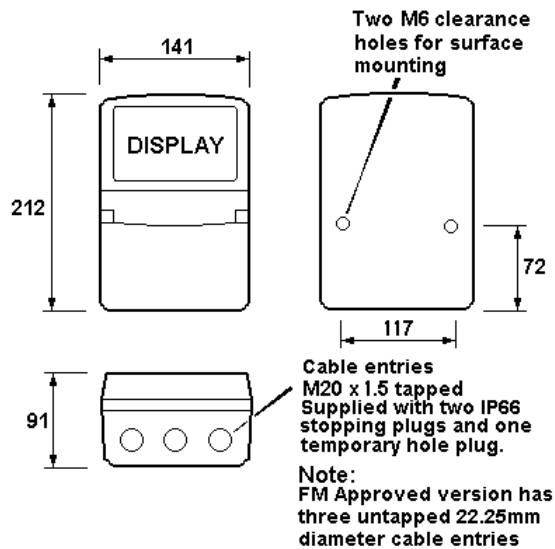

Fig 1.3 Dimensions and terminal connections
- d. Connect the field wiring to the terminals as shown in Fig 1.3.